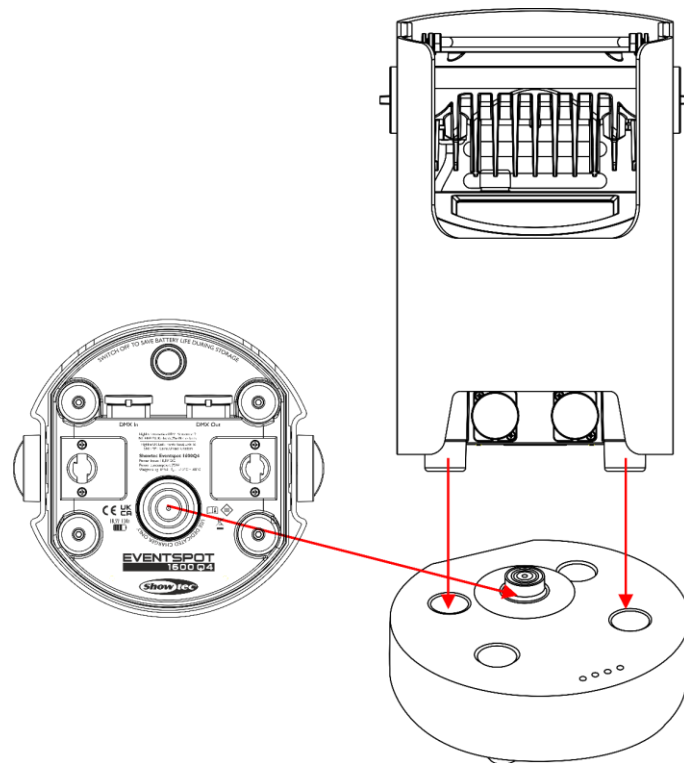

Fig. 04
- 03) Connect the EventSpot to the charger (Fig. 04).
- 04) Please make sure that the battery socket from the EventSpot covers the socket from the charger (Fig. 04).